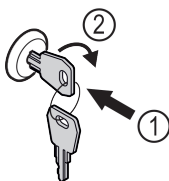

Fig. 143 Example illustration
- ▶ Insert key Fig. 143 (1).
- ▶ Turn key clockwise by 90° Fig. 143 (2).